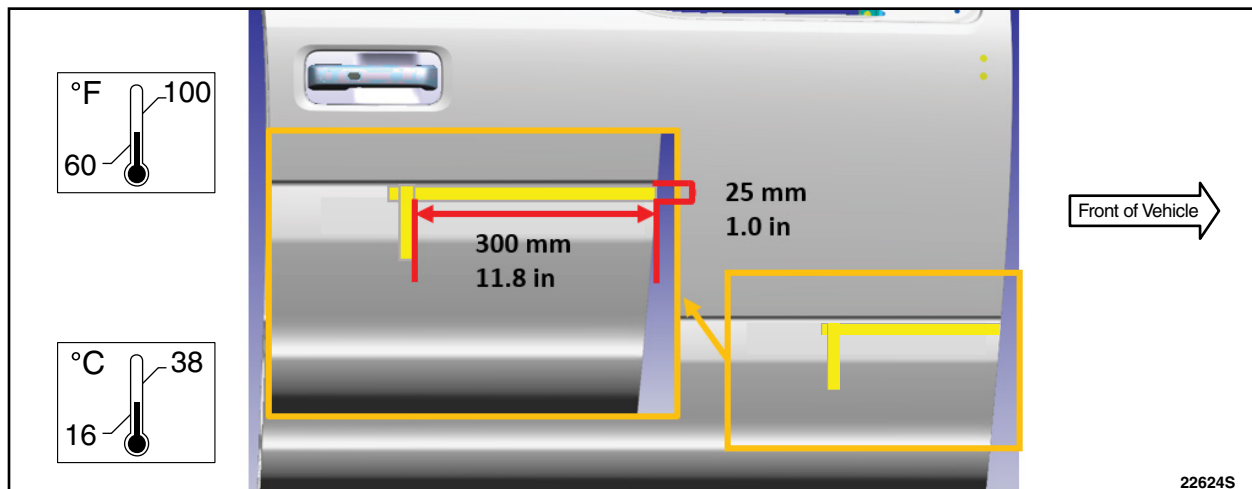

FIGURE 6
25. Measure and apply locating masking tape to the front outer panel. See Figure 6.